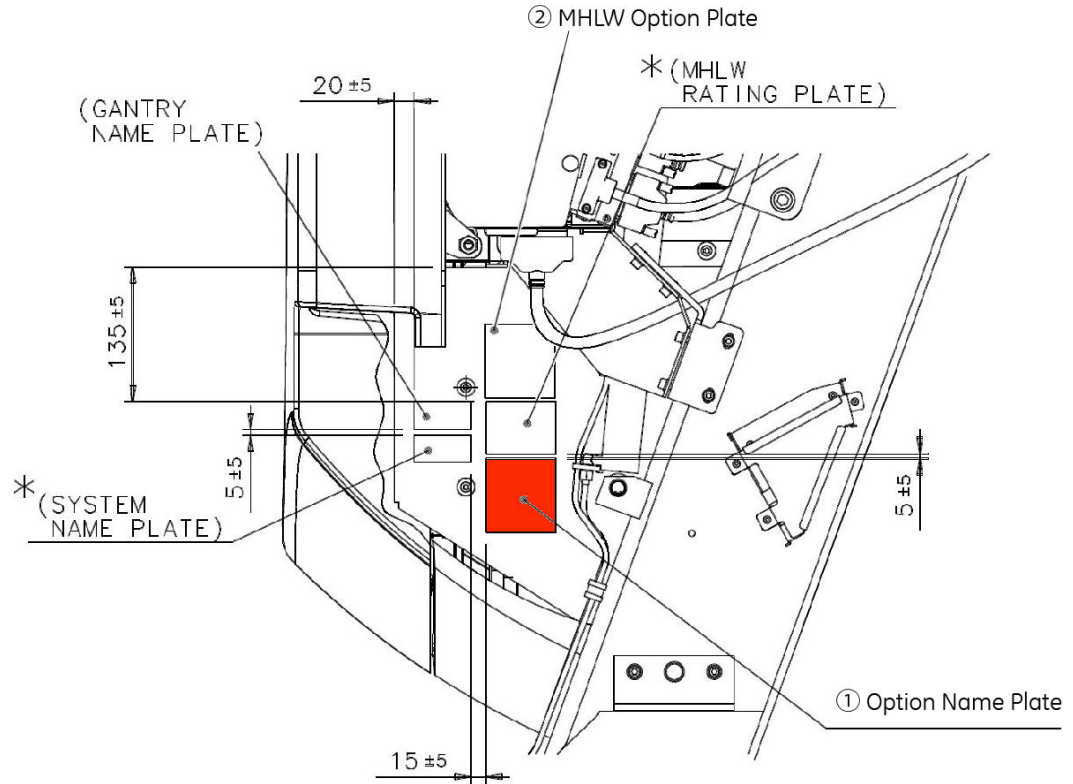

Figure 2-1 Location of Option Name Plate
- 1.) Remove the 50kVA Power Option Name Plate near the rating plate on the left side of Gantry. Refer to Figure 2-1 ①.
- 2.) Remove the MHLW option plate. Refer to Figure 2-1 ②.
- 1.) Attach the Gantry 75kVA Power Option Name Plate to the same location where the 50kVA Power Option Name Plate was attached. Refer to Figure 2-1 ①.
- 1.) Attach the MHLW Option Plate near the rating plate on the right side of Gantry. Refer to Figure 2-1 ②.